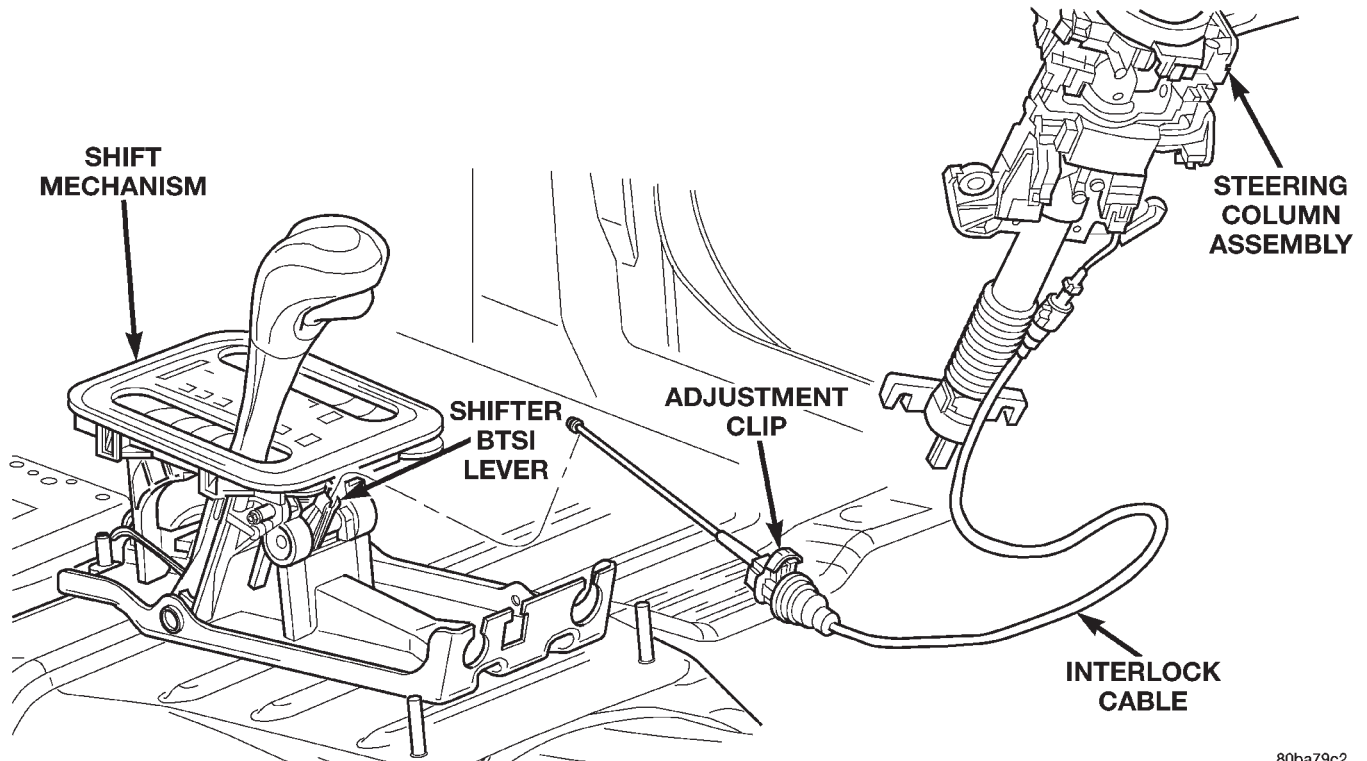

Fig. 50 Brake Transmission Shift Interlock Cable
- (1) Shift the transmission into the PARK position.
- (2) Turn ignition switch to LOCK position. **Be sure ignition key cylinder is in the LOCK position. Cable will not adjust correctly in any other position.**
- (3) Remove shift lever bezel and floor console as necessary for access to the brake transmission shift interlock cable.
- (4) Pull cable lock button up to release cable (Fig. 50).
- (5) Pull cable rearward. Then release cable and press lock button down until it snaps in place.